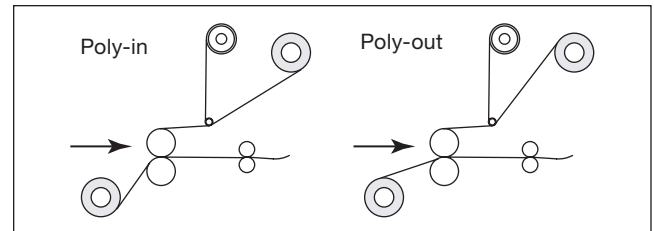

Fig. 6-19. Configuration for Poly-in or Poly-out PSA Films.
This two pass operation requires pressure sensitive laminating film on the top supply shaft and pressure sensitive mounting film on the bottom supply shaft. Refer to Fig. 6-19 for the proper configuration of Poly-in or Poly-out film.
- Refer to Fig. 6-19 for the proper film configuration.